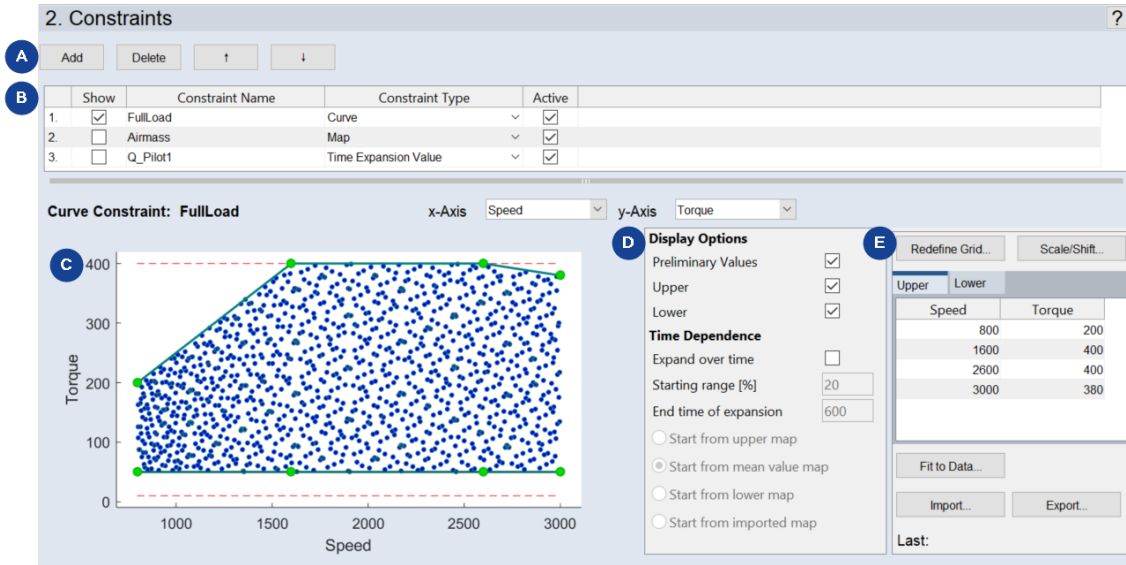

Fig. 6-3: ASCMO-DYNAMIC ExpeDes Step 2: Constraints (Type **Curve**)
1. Click **Add** to create a new constraint (see **A Fig. 6-3:** above).
If a completely specified constraint is selected in the list, the measurement points of the current experiment plan are displayed in a 2D (Curve, see Fig. 6-3: on the previous page) or 3D plot (Map).
The display of the preliminary values is controlled via the **Preliminary Values** checkbox (region **D** in Fig. 6-3: on the previous page). Only a part is shown to ensure a smooth operation. In addition, the thicker points of the grid with which the constraint of areas is controlled are also displayed.
2. In the constraint plot (region **C** in Fig. 6-3: on the previous page), click a point of the constraining line/area and hold the mouse button pressed.
The numeric values of the constraining points are shown in the tables on the right (**Upper** and **Lower** tabs; region **E** in Fig. 6-3: on page 73) and can be processed in these (both in terms of quantity and value); see section "Table for Displaying and Editing the Grid Nodes" below.
The grid nodes can be edited in the tables to the right of the plot (region **E** in Fig. 6-3: on page 73). One tab each is available for the upper and lower constraint.
- i. In the table area (region **E** in Fig. 6-3: on page 73), click **Export**.